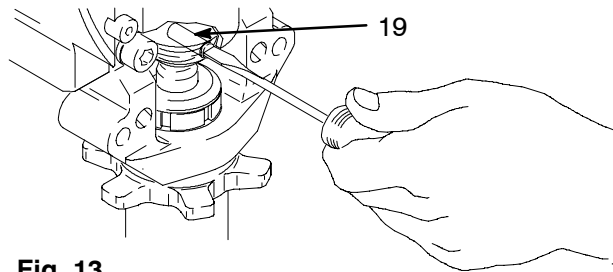

Fig. 13 7675B
5. Fig. 13. Use screwdriver: push retaining spring up and push out pin (19).
2. Fig. 13. Push pin (19) into hole. And push retaining spring into groove all the way around connecting rod.